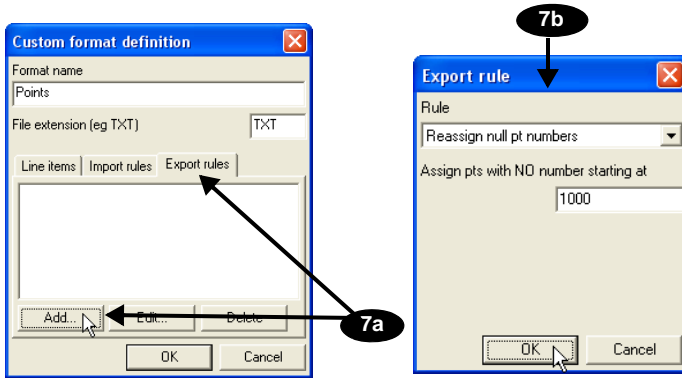

Figure 2-4. Enter Export Rules
7. Click **Export rules** and click **Add**. Select the desired *Rule* and type a number to start at for points with no number. Click **OK** (Figure 2-4).